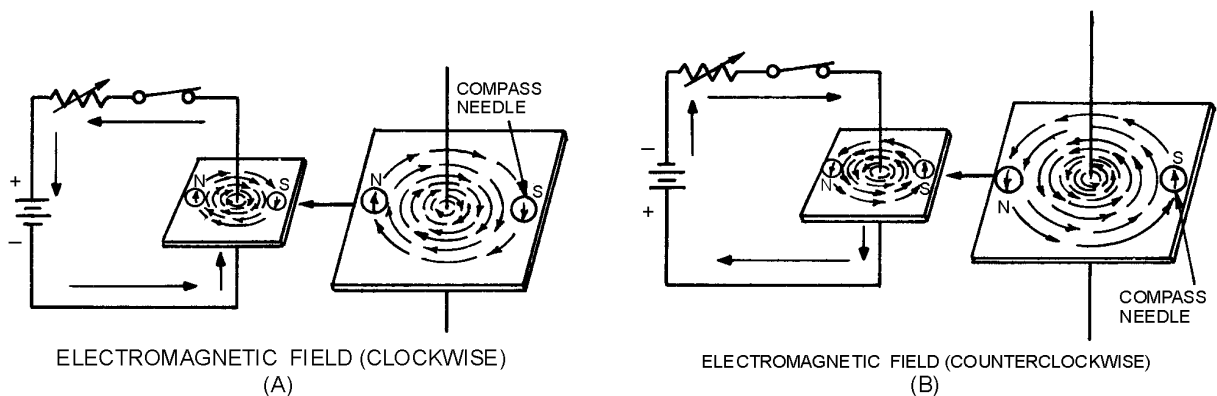

Figure 1-2.—Magnetic field around a current-carrying conductor.
If a compass is placed in the vicinity of a current-carrying conductor, the compass needle will align itself at right angles to the conductor, thus indicating the presence of a magnetic force. You can demonstrate the presence of this force by using the arrangement illustrated in figure 1-2. In both (A) and (B) of the figure, current flows in a vertical conductor through a horizontal piece of cardboard. You can determine the direction of the magnetic force produced by the current by placing a compass at various points on the cardboard and noting the compass needle deflection. The direction of the magnetic force is assumed to be the direction in which the north pole of the compass points.
In figure 1-2 (A), the needle deflections show that a magnetic field exists in circular form around the conductor. When the current flows upward (see figure 1-2(A)), the direction of the field is clockwise, as viewed from the top. However, if you reverse the polarity of the battery so that the current flows downward (see figure 1-2(B)), the direction of the field is counterclockwise.
The relation between the direction of the magnetic lines of force around a conductor and the direction of electron current flow in the conductor may be determined by means of the **LEFT-HAND RULE FOR A CONDUCTOR**: if you grasp the conductor in your left hand with the thumb extended in the direction of the electron flow (current) (– to +), your fingers will point in the direction of the magnetic lines of force. Now apply this rule to figure 1-2. Note that your fingers point in the direction that the north pole of the compass points when it is placed in the magnetic field surrounding the wire.
Figure 1-2 shows that the direction of the magnetic field around a straight wire depends on the direction of current in that wire. Thus, a reversal of current in a wire causes a reversal in the direction of the magnetic field that is produced. It follows that a reversal of the current in a coil also causes a reversal of the two-pole magnetic field about the coil.